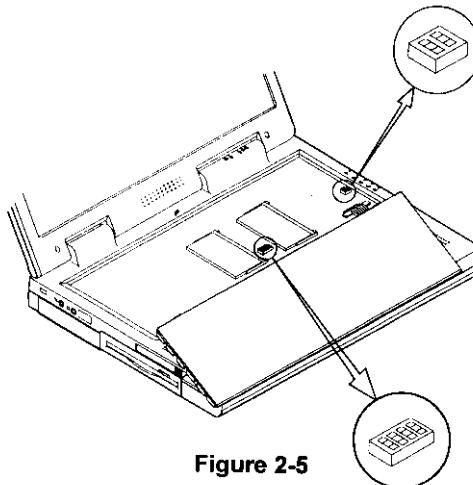

Figure 2-5
3. Carefully lift the keyboard assembly out to expose the mainboard. Locate the DIP switches to set the configuration (Figure 2-5).